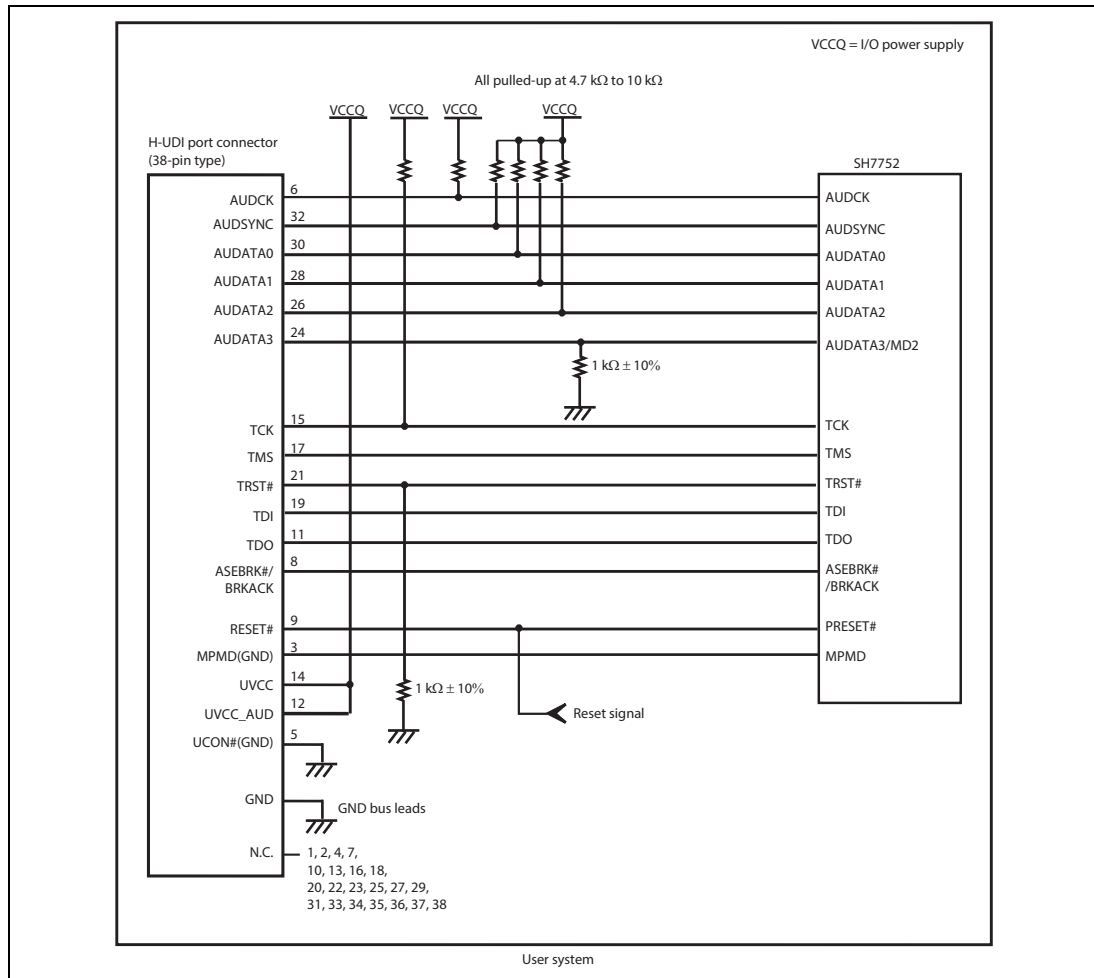

Figure 1.7 Recommended Circuit for Connection between the H-UDI Port Connector and MPU when the Emulator is in Use (38-Pin Type)
Figure 1.7 shows a recommended circuit for connection between the H-UDI and AUD port connectors (38 pins) and the MPU when the emulator is in use.
- (1) When the emulator is used: MPMD = 0
- (2) When the emulator is not used: MPMD = 1Figure 1.7 shows an example of circuits that allow the MPMD pin to be GND (0) whenever the emulator is connected by using the user system interface cable. When the MPMD pin is changed by switches, etc., ground pin 3. Do not connect this pin to the MPMD pin.
7. The resistance values shown in figure 1.7 are for reference.
When the circuit is connected as shown in figure 1.7, the switches of the emulator are set as SW2 = 1 and SW3 = 1. For details, refer to section 3.8, Setting the DIP Switches, in the SuperH™ Family E10A-USB Emulator User's Manual.